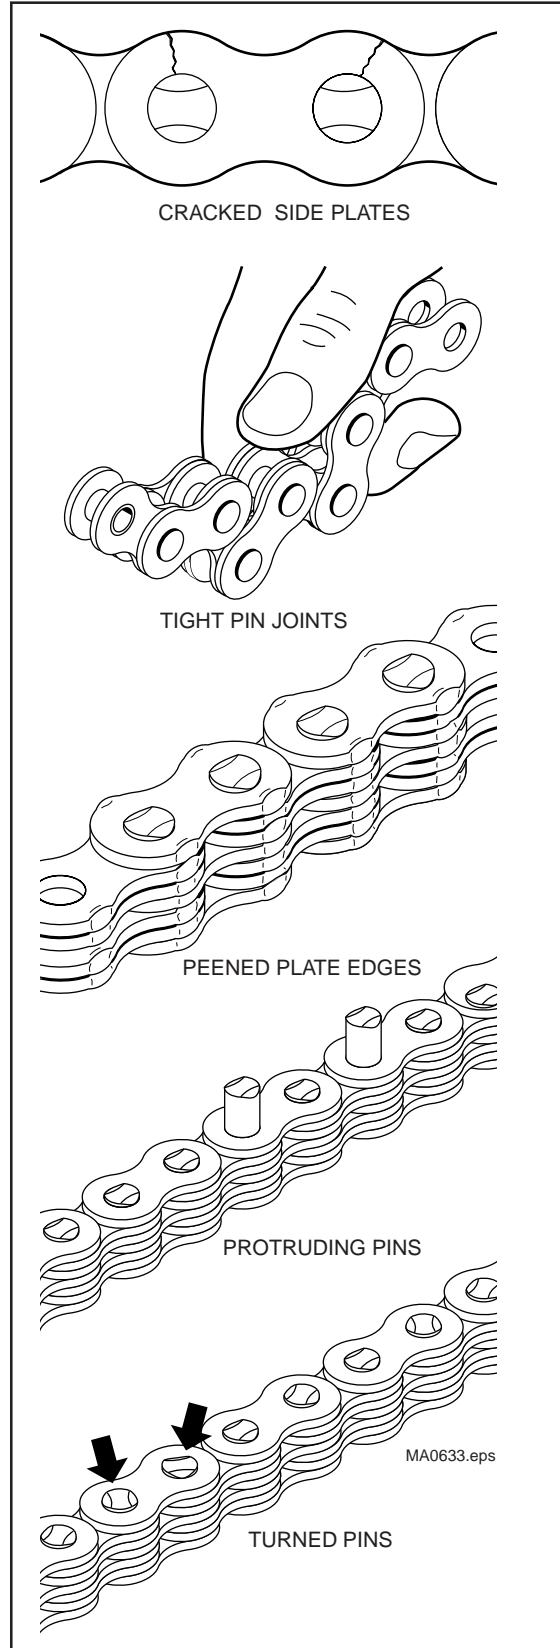

Figure 51.Chain Inspection.
1. Raise the inner upright 3 ft. (90 cm). Place a 3 ft. (90 cm) block under the free lift cylinder support casting, then lower the cylinder support onto the block. The main lift chains should be slack. See Figure 51.